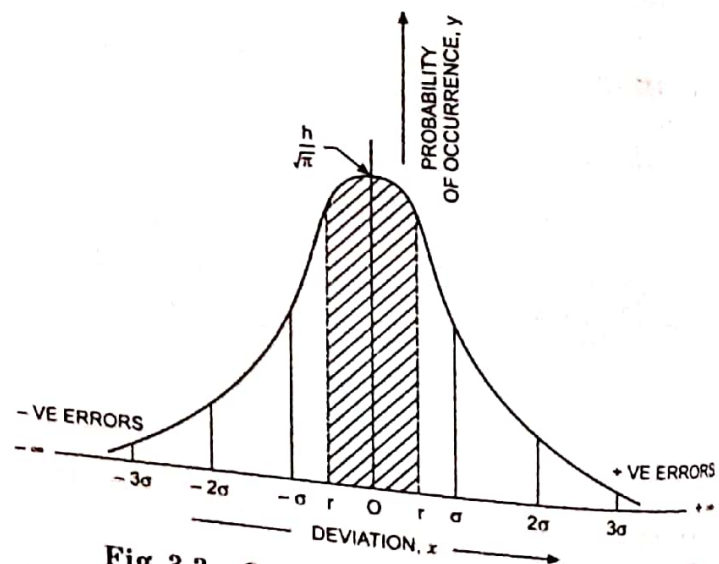

Fig. 3.3 Curve For Normal Law of Error
The area under the Gaussian probability curve shown in Fig. 3.3 within certain limits represents the number of cases among the observations within those deviation limits, expressed as a fraction of the total cases. The area between the limits $-\infty$ to $+\infty$ represents the entire number of observations and taken as unity.
If ordinates are erected at deviations of $\pm \tau = 0.6745\sigma$, as shown in Fig. 3.3, half the area under the curve is enclosed between these limits. The quantity τ is called the *probable error (PE)*. This value is probable, as shown, in the sense that there is an even chance that any one observation will have a random error no greater than $\pm \tau$.